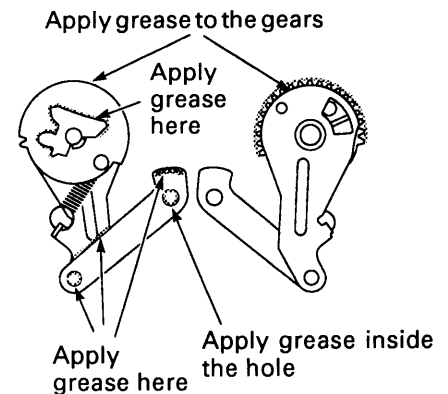

Fig.3-17-2
1. Apply grease (VHJ-0100) to the shafts ⑧, ⑨ and parts A shown in Fig.3-17-1. Then apply grease (VHJ-0100) to the parts shown in Fig.3-17-2.